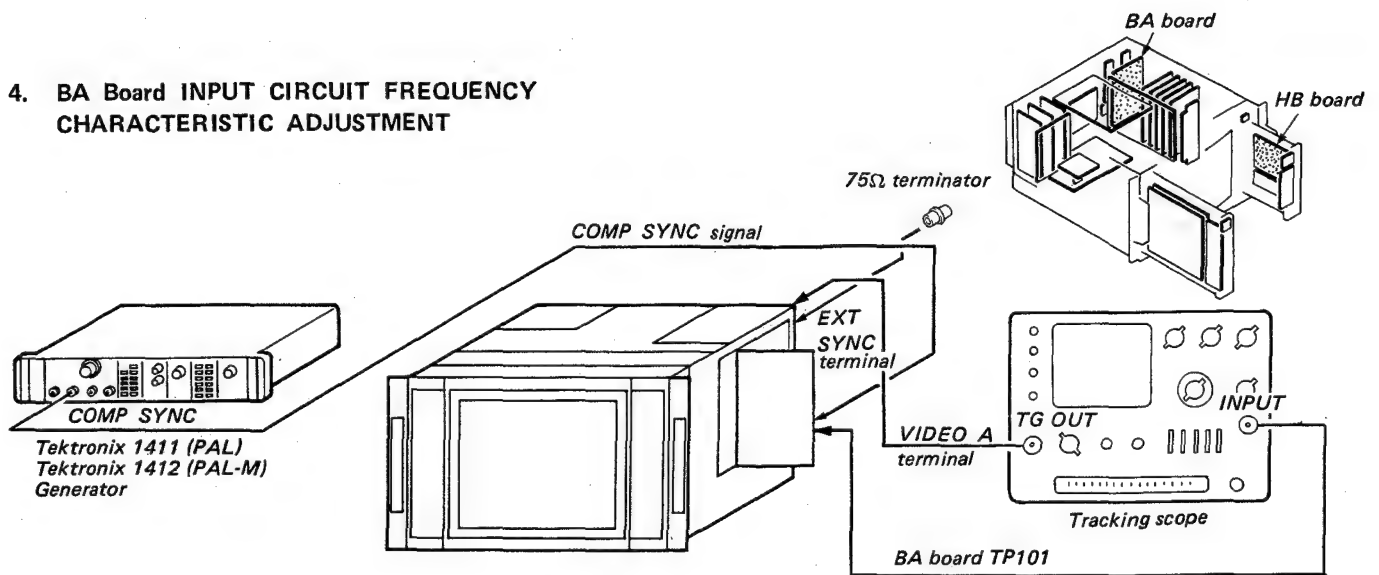
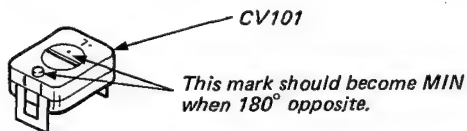

Fig. 4-1
Fig. 4-2
- Complete the connection as shown in Fig. 4-1.
- INPUT selector A (A)
- Adjust CV101 so that minimum as shown in Fig. 4-2.